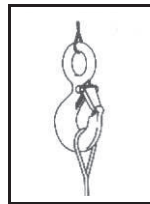

Figure 1
- Always make sure hook supports the load. The latch must never support the load. (See Figure 1 & 2.)